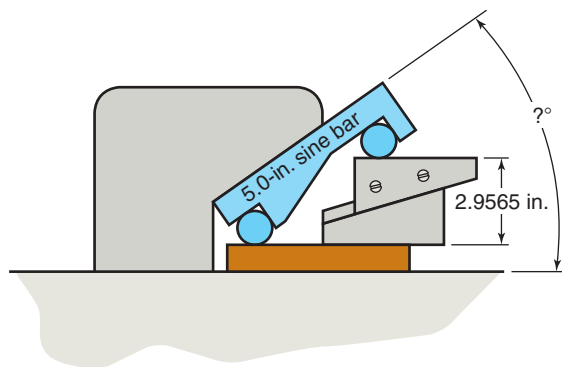

Figure 7-51 Measuring an angle with a sine bar.
7.4.4B Measuring an Angle This time we need to measure to the best accuracy possible the angle on the undercut block of Fig. 7-51. Here the adjustable parallel comes in handy along with a ground parallel bar under the sine bar. It's placed under the front rod, then opened until the bar fits the